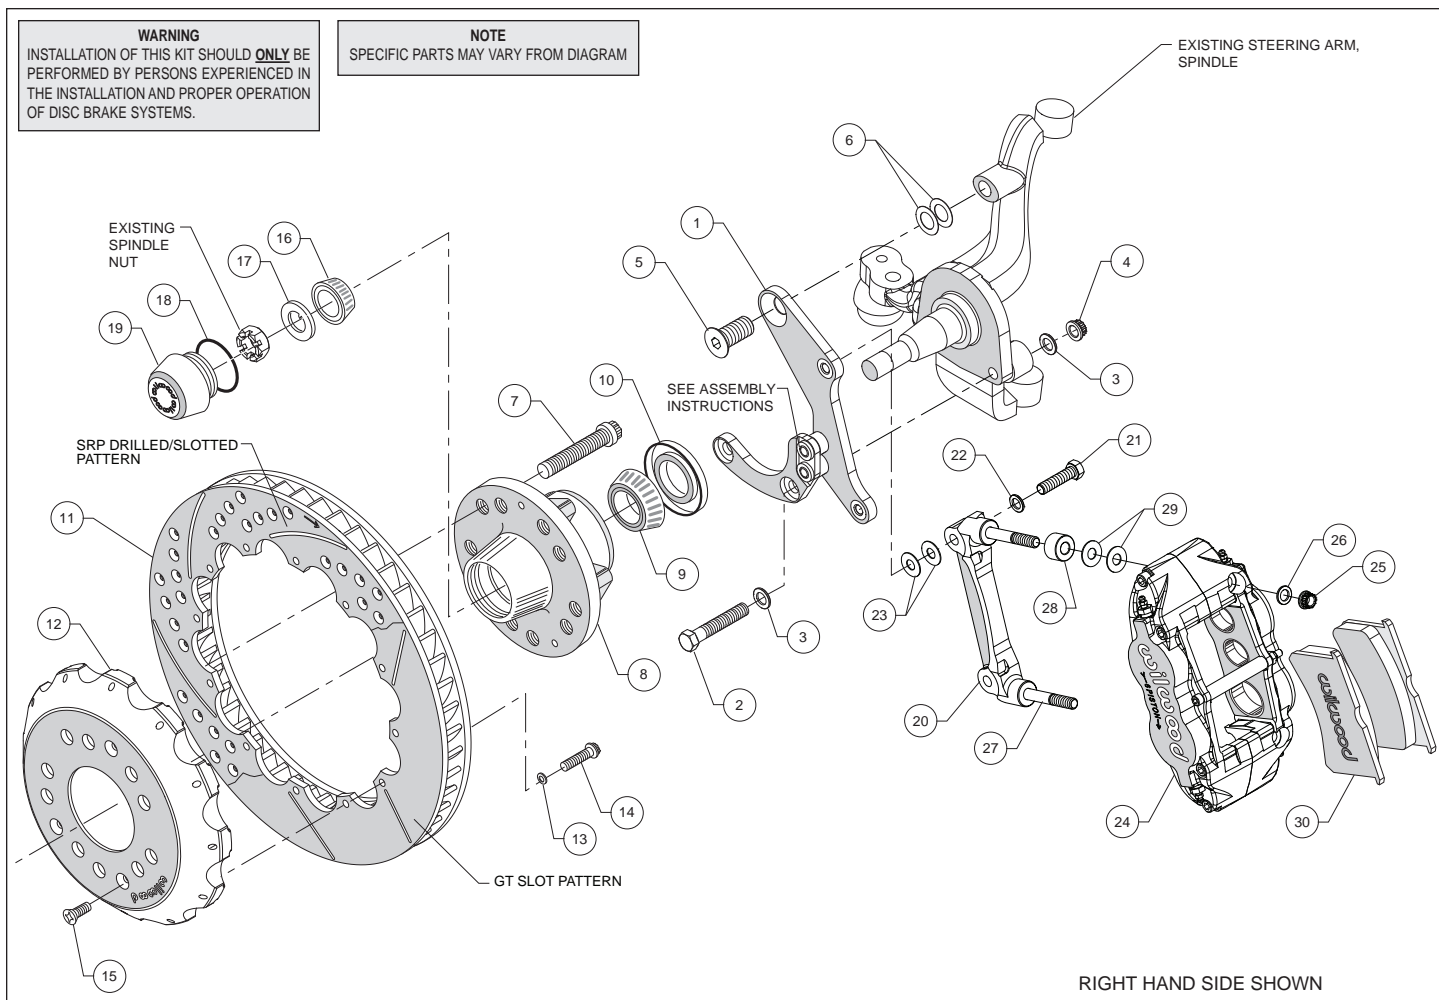
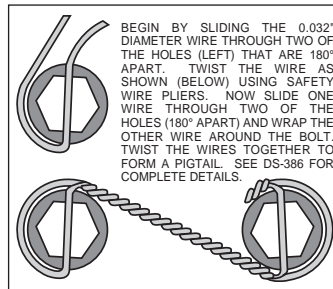
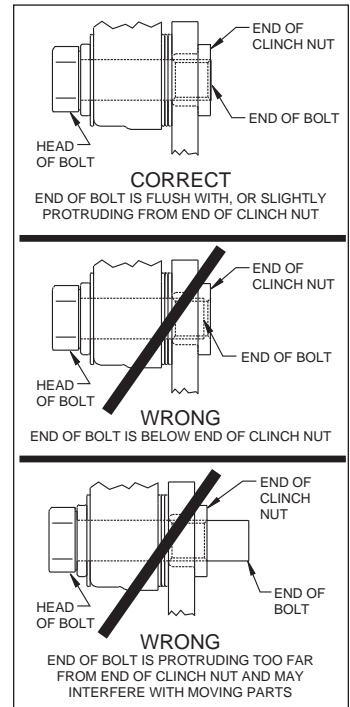

Figure 1. Typical Installation Configuration
Figure 3. Safety Wire Diagram
Figure 4. Clinch Nut Engagement Diagram
**Assembly Instructions** (numbers in parenthesis refer to the parts list and Figure 1 on the preceding pages): **CAUTION:** All mounting bolts must fully engage clinch nuts. Be sure to check that all bolts are either flush or protruding through flanged side of clinch nut after shimming, Figure 4.
- The spindle bracket (1) has been assembled at the factory for alignment purposes. Loosen the two bolts that secure the brackets together so that the bolts are hand tight only. This will enable the bracket assembly to be adjusted to accommodate various spindle tolerances during assembly. Align bracket with the two lower holes on the spindle face and attach using bolts (2), washers (3), and secure using nuts (4), as shown in Figure 1 and Photo 1. Install bolt (5) through top of bracket while placing shims (6) between bracket and spindle, Figure 1. Initially use two .024" thick shims (6) on the top bolt between the bracket and upright. Temporarily tighten the mounting bolts. Ensure that the flanged heads of the clinch nuts in the bracket are facing outboard, Photo 1. **NOTE:** The bracket must fit squarely against the mounting points on the spindle. Inspect for interference from casting irregularities, machining ridges, burrs, etc.
- Check that the bracket is aligned parallel to the rotor by assembling and installing the hub/rotor per the step below. If not, adjust by adding or subtracting shims (6) between the spindle and bracket, Figure 1.
- Install wheel studs (7) into the hub (8), Photo 2. Torque to 77 ft-lb. **NOTE:** There are two five lug patterns in the hub (5 x 4.50 and 5 x 4.75). Ensure the correct hub stud pattern is being used to fit the wheel application.
- Pack the large inner bearing cone (9) with high temperature disc brake bearing grease (available from your local auto parts store) and install into the backside of the hub (8), Photo 3.
- Install the grease seal (10) by pressing into the backside of the hub (8), flush with the end of the hub, Photo 3.
- Orient the rotor (11) and the hat (12) as shown in Figure 1 and Photo 4. Attach rotor to hat using bolts (14) and washers (13). Using an alternating sequence, apply red *Loctite*® 271 to the threads, and torque to 155 **in-lbs**. For an added measure of security, the bolts may be safety wired using standard 0.032 inch diameter stainless steel safety wire as shown in Figure 3. Refer to Wilwood's data sheet DS-386 (available at [www.wilwood.com/Pdf/DataSheets/ds386.pdf](http://www.wilwood.com/Pdf/DataSheets/ds386.pdf)) for complete safety wire installation instructions.
- The caliper mount bracket (20) should initially be installed with clean, dry threads on the mounting bolts. Orient the bracket as shown in Figure 1 and Photo 7, and install using bolts (21) and washers (22). Initially place two .035" thick shims (23) on each bolt between the bracket and the spindle bracket (1), Figure 1. Temporarily tighten the mounting bolts. Later, after the caliper alignment has been checked, the mount bolts will be secured using red *Loctite*® 271.
- **NOTE:** *This kit contains distinct right and left hand calipers that must be mounted in a specific direction, as described below.* Lubricate the caliper mounting studs (27) with lightweight oil. Initially place two .035" thick shims (29) and one spacer (28) on each stud between the caliper and the bracket, as shown in Figure 1 and Photo 8. Mount the caliper (24) onto the bracket (27) using lock nuts (25) and washers (26), Figure 1. Ensure that the caliper is mounted so the largest pistons are at the rotor exit end of the caliper, in relation to the direction of rotor rotation. Temporarily tighten the lock nuts and view the rotor through the top opening of the caliper. The rotor should be centered in the caliper, Photo 9. If not, adjust by adding or subtracting shims (23) between the spindle bracket (1) and the caliper bracket. Always use the same amount of shims on each of the two mounting bolts. **NOTE:** *The end of each bolt must be flush with or slightly protruding from the head of the clinch nut, as shown in Figure 4.* If necessary place spare shims between washer (22) and caliper mounting bracket to achieve the proper clinch nut engagement. Once the caliper alignment and clinch nut engagement are correct, remove the bolts one at a time, apply red *Loctite*® 271 to the threads, and torque to 40 ft-lb.